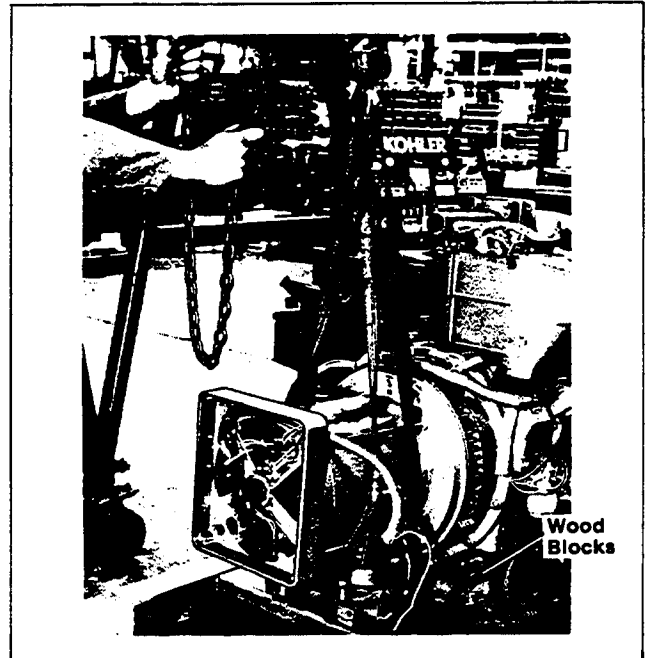

Figure 5-3. Generator Hoisting
5. Cradle stator with lifting straps and raise with a hoist to lift generator off of vibro-mounts. Figure 5-3.
6. Place wood blocks under the flywheel housing to support engine, Figure 5-3. Lower generator allowing flywheel housing to rest on blocks.